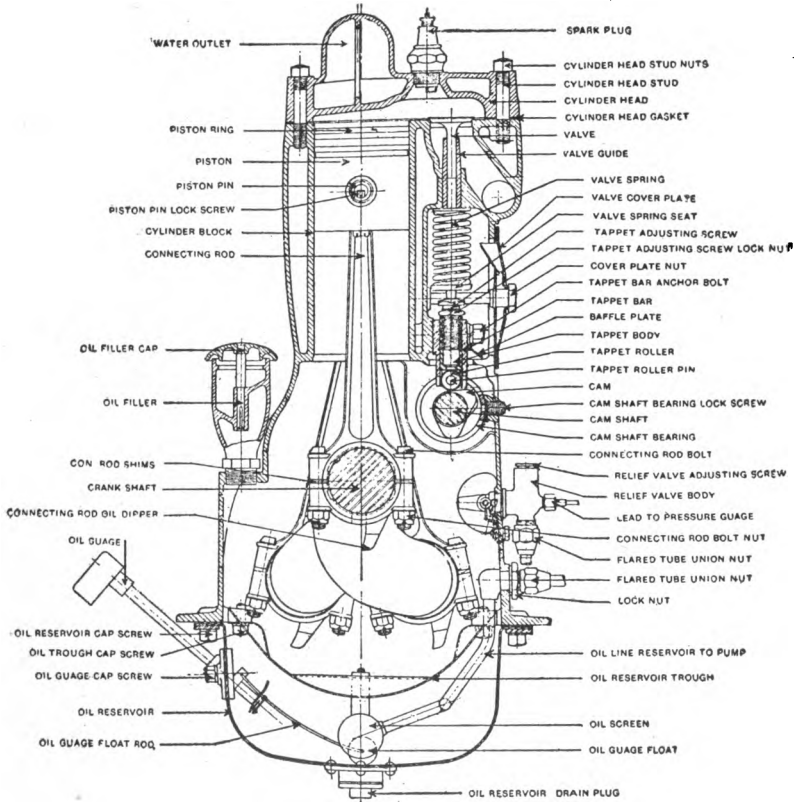

Fig. 28. Cross-Section of the Chalmers Motor
**Valves.** In Fig. 28 is shown a sectional end view of the motor, giving all details such as spark plugs, valves, valve springs, push rods, cams, etc. Each cylinder has two valves, an inlet